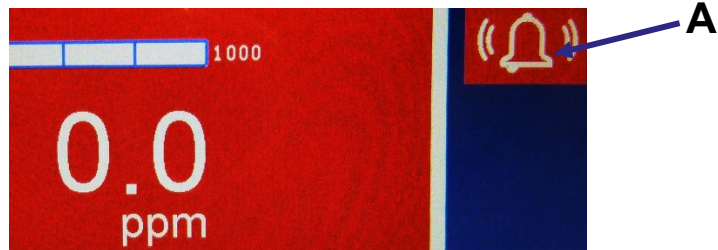

Figure 7-13: Measurement alarm condition triggered
- The screen changes to flashing red (Figure 7-13).
- The Alarm Status icon appears at the upper right of the screen (Figure 7-13 A).